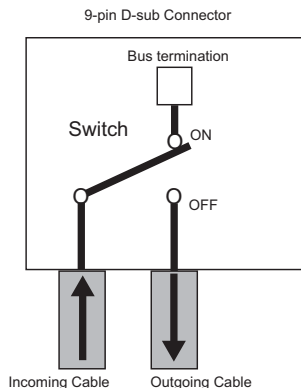

Figure 8 PROFIBUS Cable Connection with Termination Resistors
- Connect the option to the network using PROFIBUS-DP-dedicated cables as shown in **Figure 8**.
Use only the input side cable entry as shown in **Figure 8** when connecting both ends of the network. Most 9-pin D-sub connectors have a function for disconnecting the output side of the cable. Communication will not be possible between devices if the connector is reversed. Most connectors have arrows indicating the input and output sides.